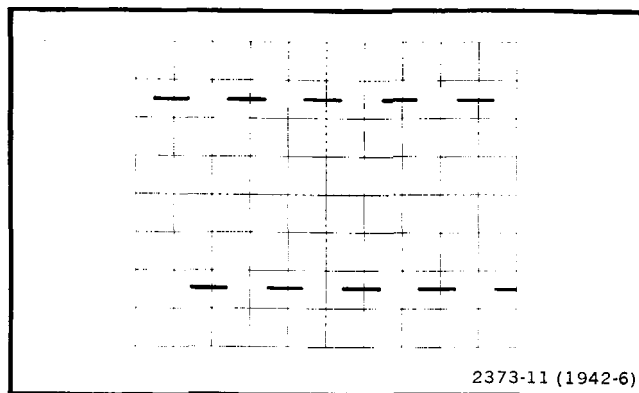

Figure 2-11. Display of 0.5 V PROBE ADJ output signal.
6. Adjust the SEC/DIV switch to obtain the desired display. Using the PROBE ADJ output signal, the display should appear as illustrated in Figure 2-11 (use a 10X probe with a VOLTS/DIV switch setting of .1 and a SEC/DIV switch setting of .5 m).